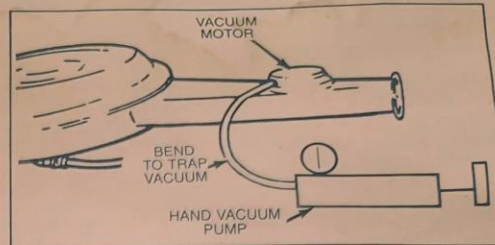

Figure 2-3. Vacuum Motor Test
1. With the engine off, disconnect the vacuum hose at the vacuum diaphragm motor. Attach a hand vacuum pump to the motor (Fig. 2-3).